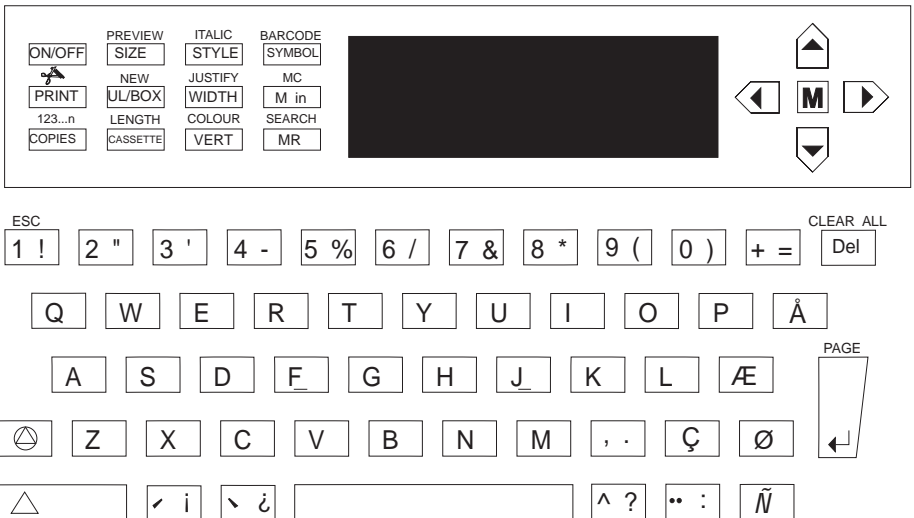

Fig. 3 — The keyboard
4. Use the keyboard to type in your full name – see Fig. 3. Each character you enter will appear on the LCD display.